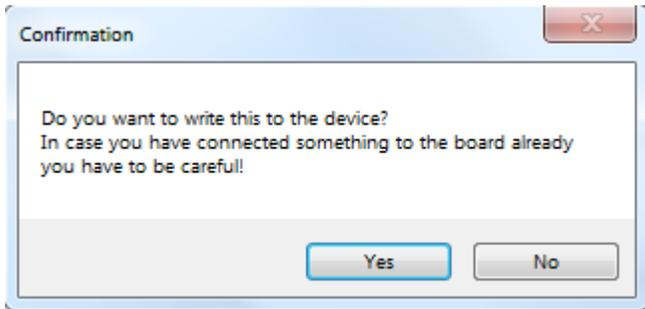

Figure 19. Confirmation Window
5. The Munich GUI now shows all pin descriptions in the GUI according to the register file. But the GUI does not immediately write it to the device, allowing the user opportunity to double-check. This step is only important if something is already connected to the MAX11312 ports as a DAC can provide up to  $\pm 10V$  and potentially destroy the external circuitry. Also, do not connect 2-DAC ports together (shorted) and set to **different voltage levels**. In addition, **GPI ports can only support levels between 0V and 5V**. Therefore, do not connect a DAC to a GPI with a voltage outside of the allowed range. A **Confirmation** window appears as depicted in **Figure 19**.